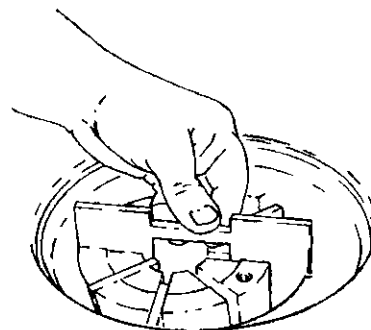

Fig. 5-2
- The rotor is lifted up slightly and the vanes can be removed (Fig. 5-2).